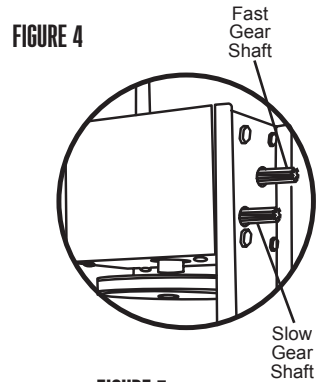

FIGURE 5
3. Rest the canister's bottom brackets onto the canister mounts inside the housing of the stuffer. Pivot the bottom of the top of the canister into the stuffer housing first. Pivot the canister fully into the stuffer housing, snapping the top brackets into the canister mounts (**FIGURE 5**).